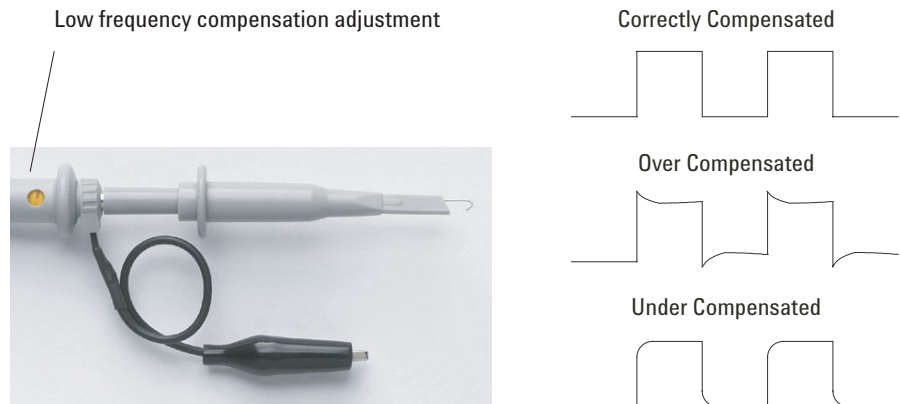

Figure 7 Low Frequency Probe Compensation
- 4 If waveform does not appear like the Correctly Compensated waveform shown in Figure 7, then use a nonmetallic tool to adjust the low frequency compensation adjustment on the probe for the flattest square wave possible.